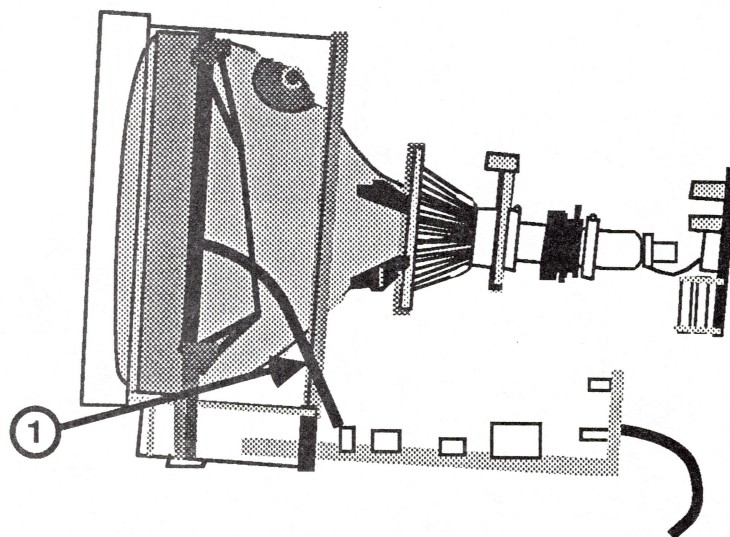

FIGURE 11
9. Disconnect the degaussing coil ground strap (Figure 11, #1) from connector W on the main logic PCB.